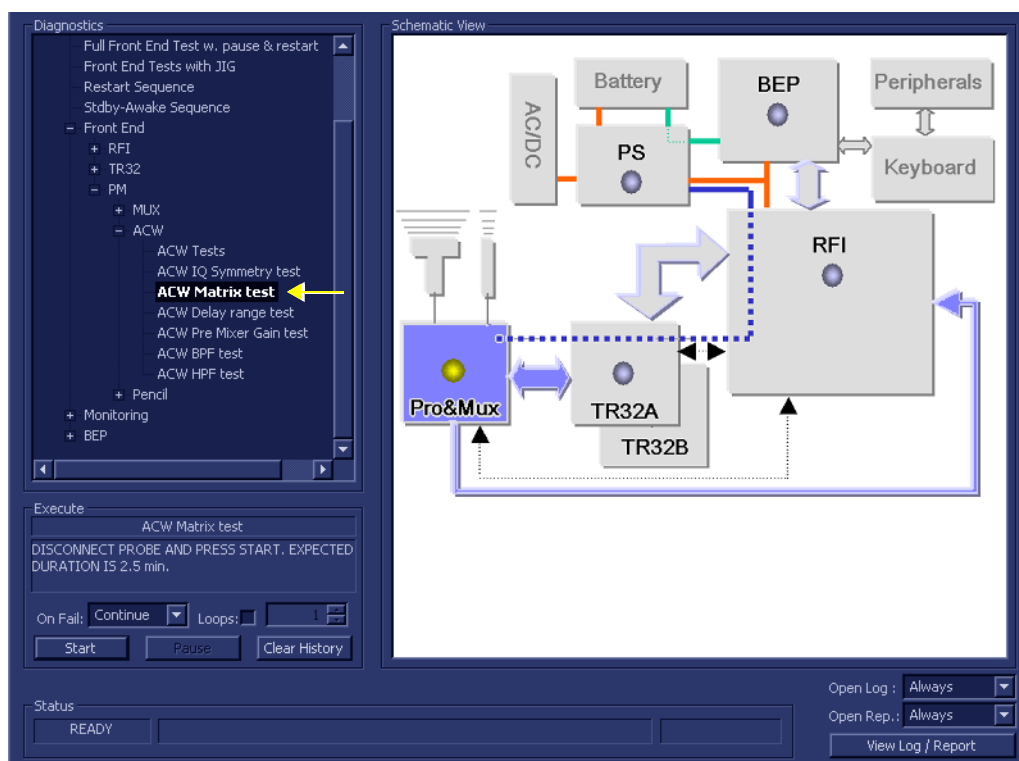

Figure 7-37 ACW Matrix Test
- 1.) In the *Diagnostic Test* window, trackball to **ACW Matrix Test** in the list of ACW tests available for selection from the Diagnostic Test Tree (see Figure 7-37 below) and press **Set**. The ACW Matrix Test name is displayed under *Execute*; the relevant system components to be tested are highlighted light blue in the Schematic View (P&M), as shown below: